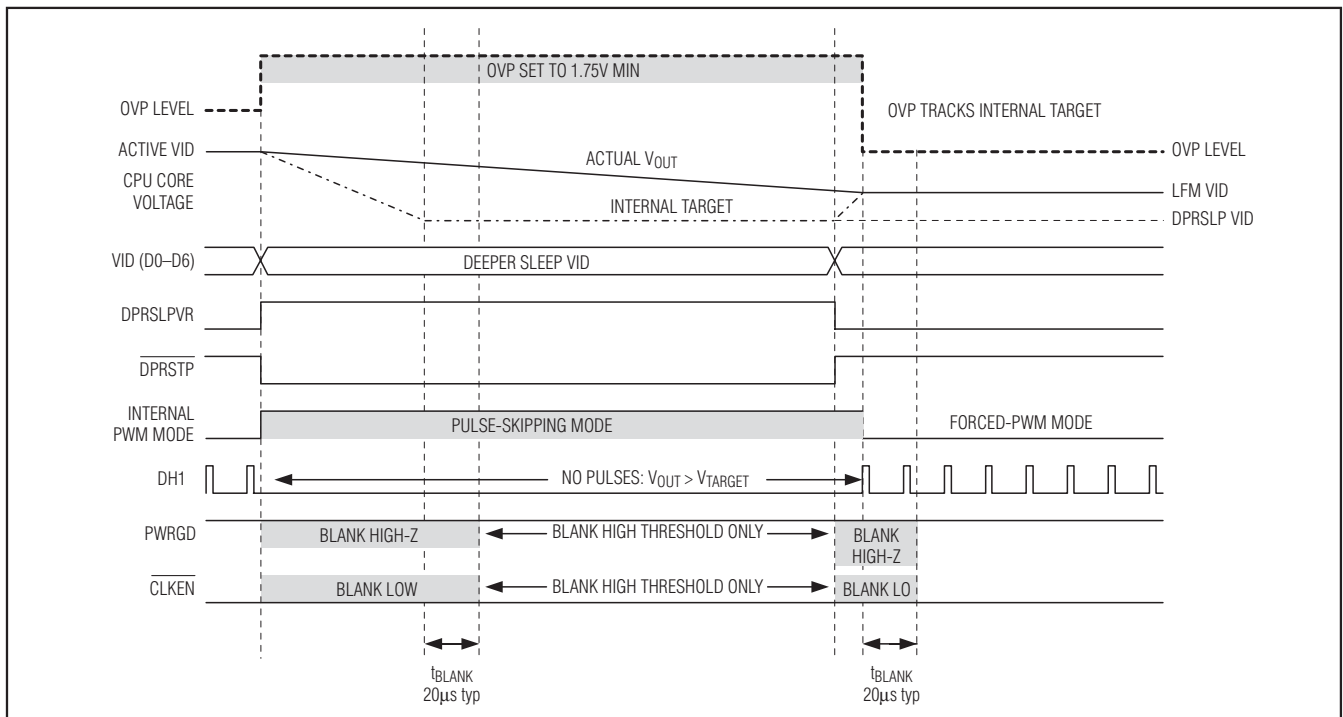

Figure 5. IMVP-6 C4E (C4 Early Exit) Transition
When DPRSLPVR goes high, the MAX8796/MAX17401 immediately enter pulse-skipping operation (see Figures 5, 6, 7). If the VIDs are set to a lower voltage setting, the output drops at a rate determined by the load and the output capacitance. The internal target still ramps as before, and the upper PWRGD threshold remains blanked high impedance until the output voltage reaches the internal target:
- Fast C4E deeper sleep exit:** When exiting deeper sleep (DPRSLPVR pulled low) while the output voltage still exceeds the deeper sleep voltage, the MAX8796/MAX17401 quickly slew (50mV/ $\mu s$  min regardless of  $R_{TIME}$  setting) the internal target voltage to the DAC code provided by the processor as long as the output voltage is above the new target. The controller remains in skip mode until the output voltage equals the internal target (until the first on-time is triggered by the error amplifier). Once the internal target reaches the output voltage, switching begins and the controller is allowed to enter forced-PWM mode. The controller blanks PWRGD and CLKEN (forced high impedance) until 20 $\mu s$  after the transition is completed. See Figure 5.